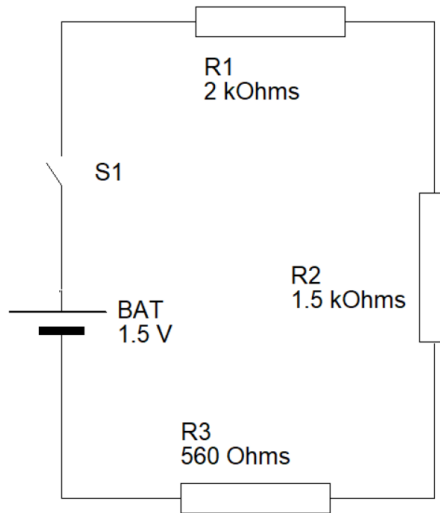

Figure 2: Circuit 1
a) Find the total resistance of the circuit shown in Figure 2. Show all your working.